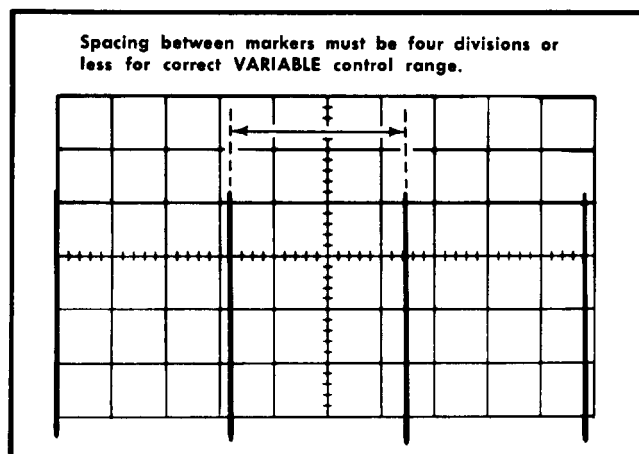

Fig. 6-44. Typical CRT display when checking A and B VARIABLE control range.
- CHECK-CRT display for four-division maximum spacing between markers (indicates adequate range for continuously variable sweep rates between the calibrated steps; see Fig. 6-44). UNCAL A OR B light must be on when A VARIABLE control is not in CAL position.
d. CHECK-CRT display for four-division maximum spacing between markers (indicates adequate range for continuously variable sweep rate between the calibrated steps; see Fig. 6-44). UNCAL A OR B light must be on when B TIME/DIV VARIABLE control is not in CAL position.